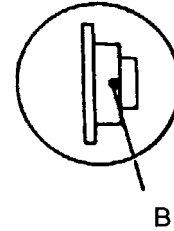

Figure 25. Position B
1. Lubricate bearing zerks with one shot of grease at each B position (13 positions). See Figure 25.